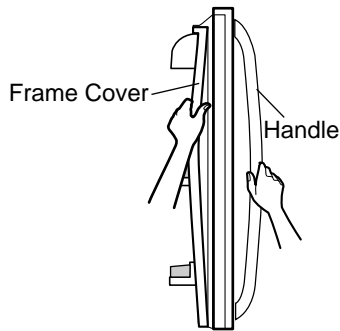

Figure 1
1. Disconnect water supply tube by pushing back on the disconnect ring (4).-FIG. 1
2. Open door. Loosen top hinge cover screw (1).
- Use flat tip screwdriver to pry back hooks on front underside of cover (3). Lift up cover.
3. Disconnect door switch wire harness (2). Remove cover.
5. Disconnect the three wire harnesses (5). Remove the grounding screw (6).
6. Rotate hinge lever (7) counterclockwise and remove. Lift top hinge (8) free of hinge lever latch (9).